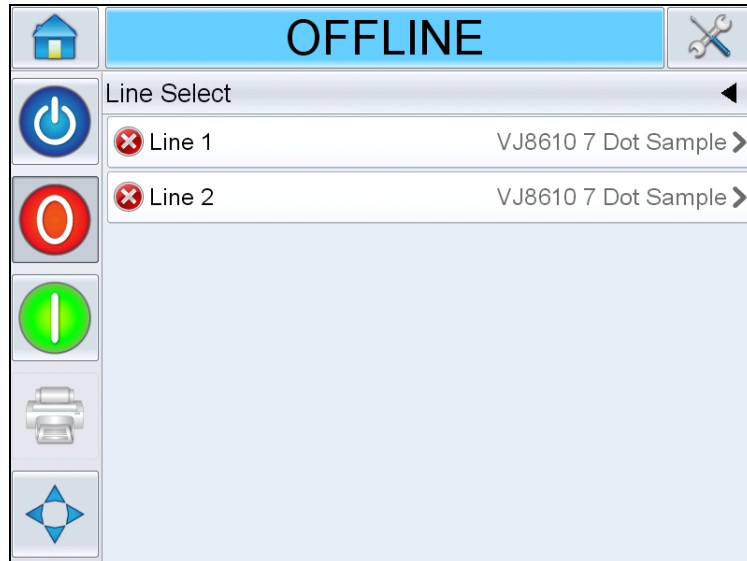

Figure 6-18: Line Select Page
- a. Touch  on the *Line Select* page (see Figure 6-18).